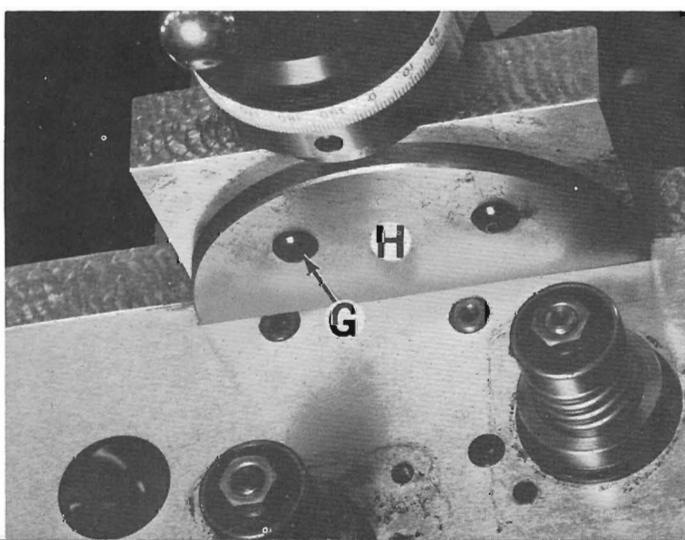

Figure 109 — Carriage Cover
5. Remove two screws "G", Figure 109, and cover "H". **DO NOT MISPLACE SEAL UNDER COVER "H".**
11. Permatex cover "H", Figure 109. Assemble seal, cover "H" and two screws "G".